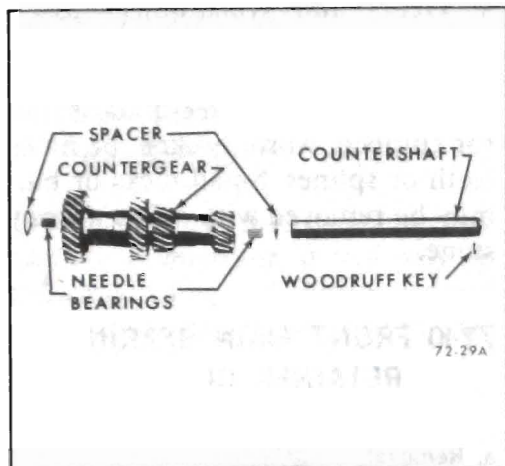

Figure 72-328 Exploded View of Countershaft
2. From each end of countershaft, remove spacer and 27 needle bearings. See Figure 72-328.
2. From each end of counter gear, install 27 needle bearings and spacer. See Figure 72-328.